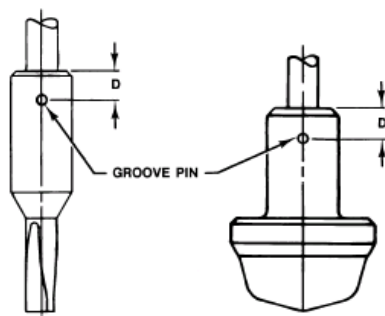

Figure 10. Bolt Torque for Plug/Stem Connection and Plug/Adaptor Connection and Pin Replacement
1. **For valves with metal seats**, screw the valve stem (key 7) into the valve plug (key 2). Tighten to the torque valve given in figure 10. Refer to figure 10 to select the proper drill size. Drill through the stem using the hole in the valve plug as a guide. Remove any chips or burrs and drive in a new pin (key 8) to lock the assembly.
3. For all valves with composition seats, screw the valve stem (key 7) into the valve plug guide (key 27, figure 13). Tighten to the torque value given in figure 10. Refer to figure 10 to select the proper drill size. Drill through the stem, using the hole in the valve plug guide as a drilling guide. Remove any chips or burrs and drive in a new pin (key 8) to lock the assembly.
4. Install the seat ring gasket (key 13), and replace the seat ring (key 9). With some valve plug sizes and configurations, the valve plug or tip will slide through the seat ring retainer and bushing assembly (keys 3 and 26), and in other configurations it won't.